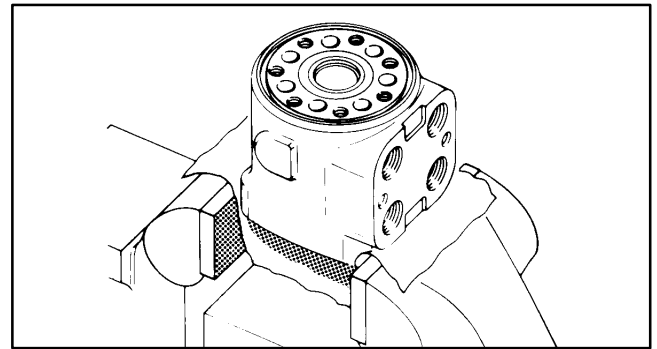

Figure 43
17. Clamp housing in vise, as shown in Fig. 43. Clamp lightly on edges of mounting area. Do not over-tighten jaws.